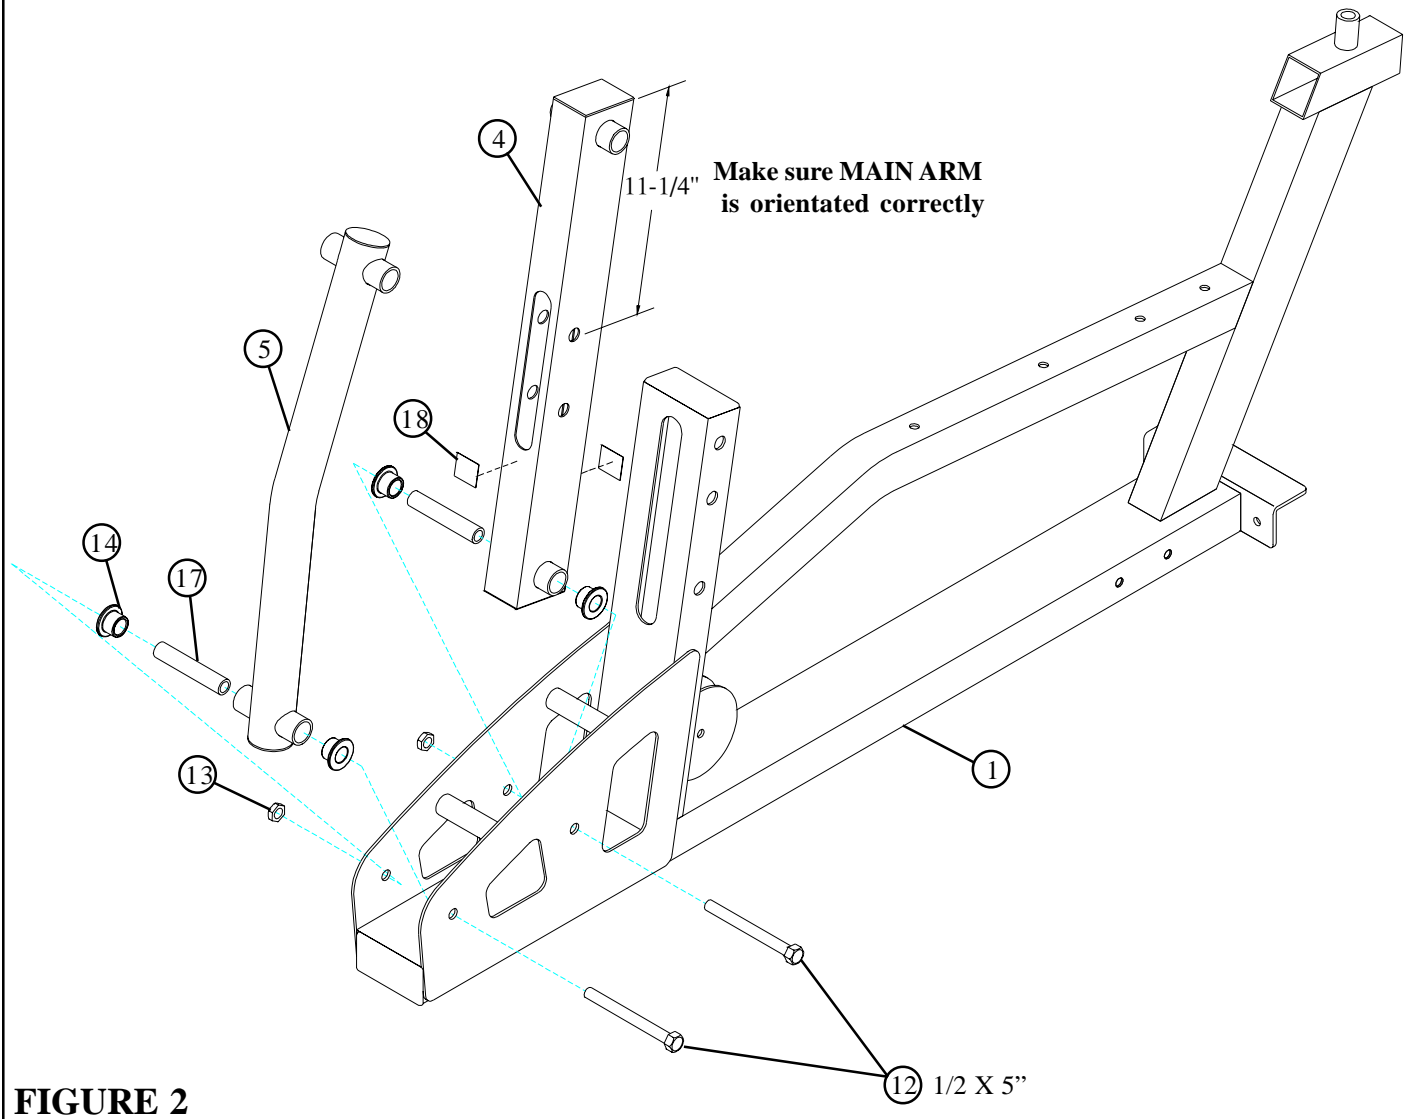

FIGURE 2
- **SECURELY** assemble the SECOND ARM (5) to the FRAME (1) using one 1/2 X 5" BOLT (12), two 3/4" FLANGE BEARINGS (14), one 3/4 X 4" SHAFT (17) and one 1/2" LOCK NUT (13). See FIGURE 2.
- **SECURELY** assemble the MAIN ARM (4) to the FRAME (1) using one 1/2 X 5" BOLT (12), two 3/4" FLANGE BEARINGS (14), one 3/4 X 4" SHAFT (17) and one 1/2" LOCK NUT (13). See FIGURE 2. (**NOTE: Make sure MAIN ARM is orientated correctly, top hole should be 11-1/4" from the top of arm as shown in FIGURE 2.**)
- **SECURELY** assemble two 1" SQ. GLIDES (18) to each side of the MAIN ARM (4) where the MAIN ARM (4) contacts the FRAME (1) See FIGURE 2.